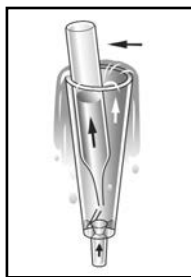

Figure 1
2. Place the CHEMet ampoule, tip first, into the sampling tube or sample cup. Snap the tip. The ampoule will fill leaving a bubble for mixing (fig. 1).